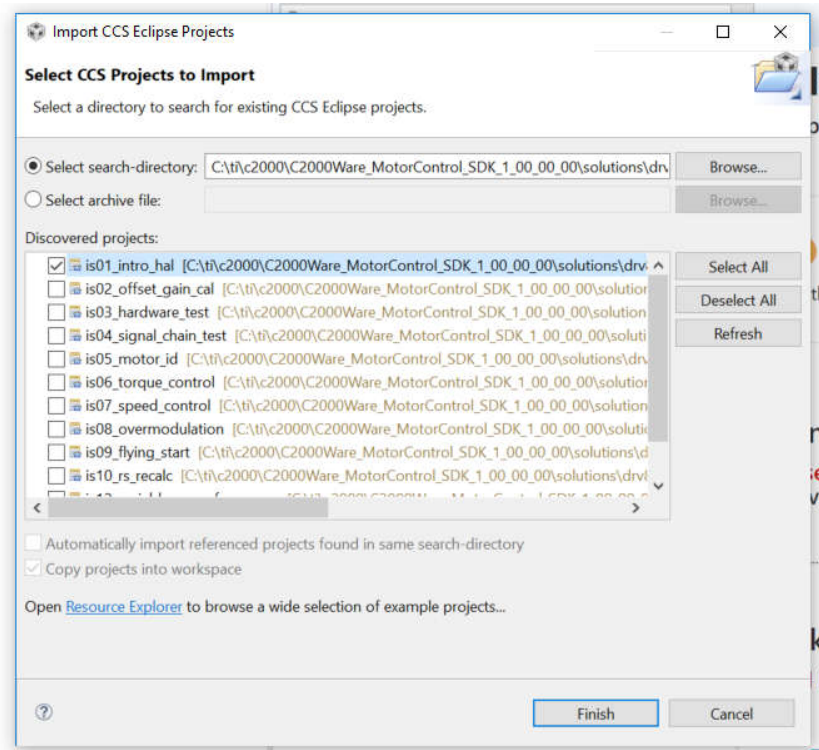

Figure 4: Import Project “is01_intro_hal” to CCS.
3. The resulting window displays a list of discovered projects within the f28004x\ folder. From this window, select the is01_intro_hal project as **Figure 4**, and then select “Finish”